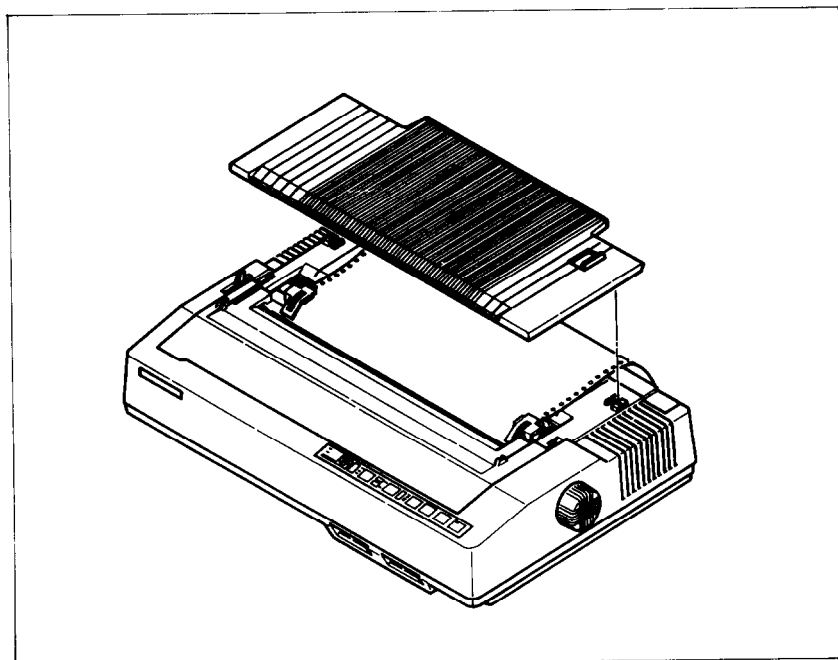
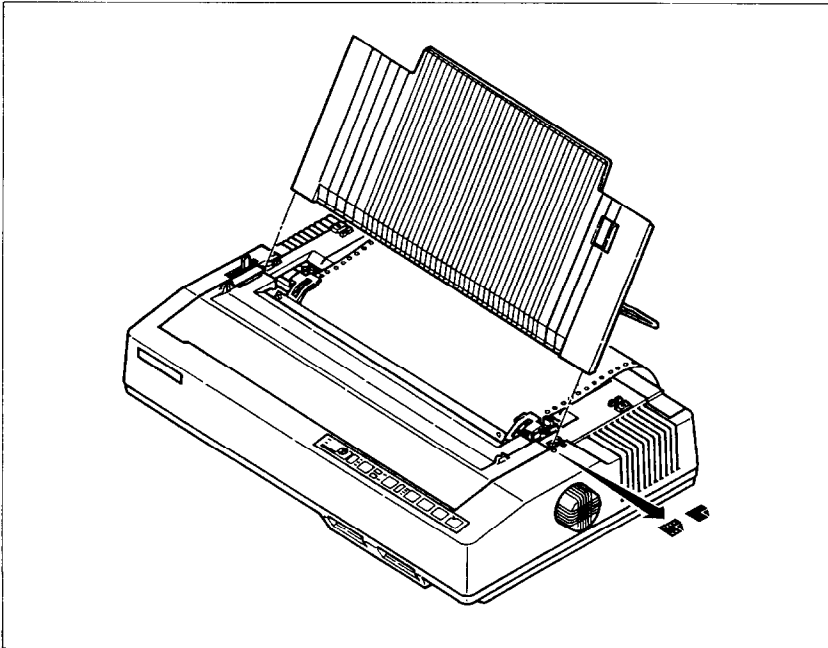

Figure 2-8. Ready to run with sprocket-feed paper.
Figure 2-9. You can raise the paper guide with sprocket-feed paper.
8. Check that the paper is still positioned correctly, and close the sprocket covers (Figure 2-8).
13. Finally, install the paper guide on the printer. You can install it either to lie flat as shown in Figure 2-8, or to raise as shown in Figure 2-9. Now you're ready to roll!